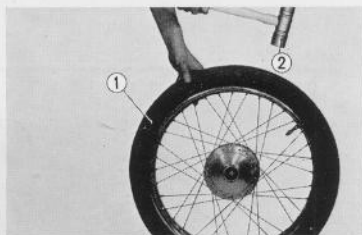

Fig. 4.91 Seating tube
- a. After the tire is assembled on the rim, inflate the tire to 1/3 the normal pressure $1.6 \sim 1.8 \text{ kg/cm}^2$ ($22.8 \sim 25.6 \text{ lbs/in}^2$) and then tap the tire lightly over the entire circumference to relieve any pinching of the tube. (Fig. 4.91)